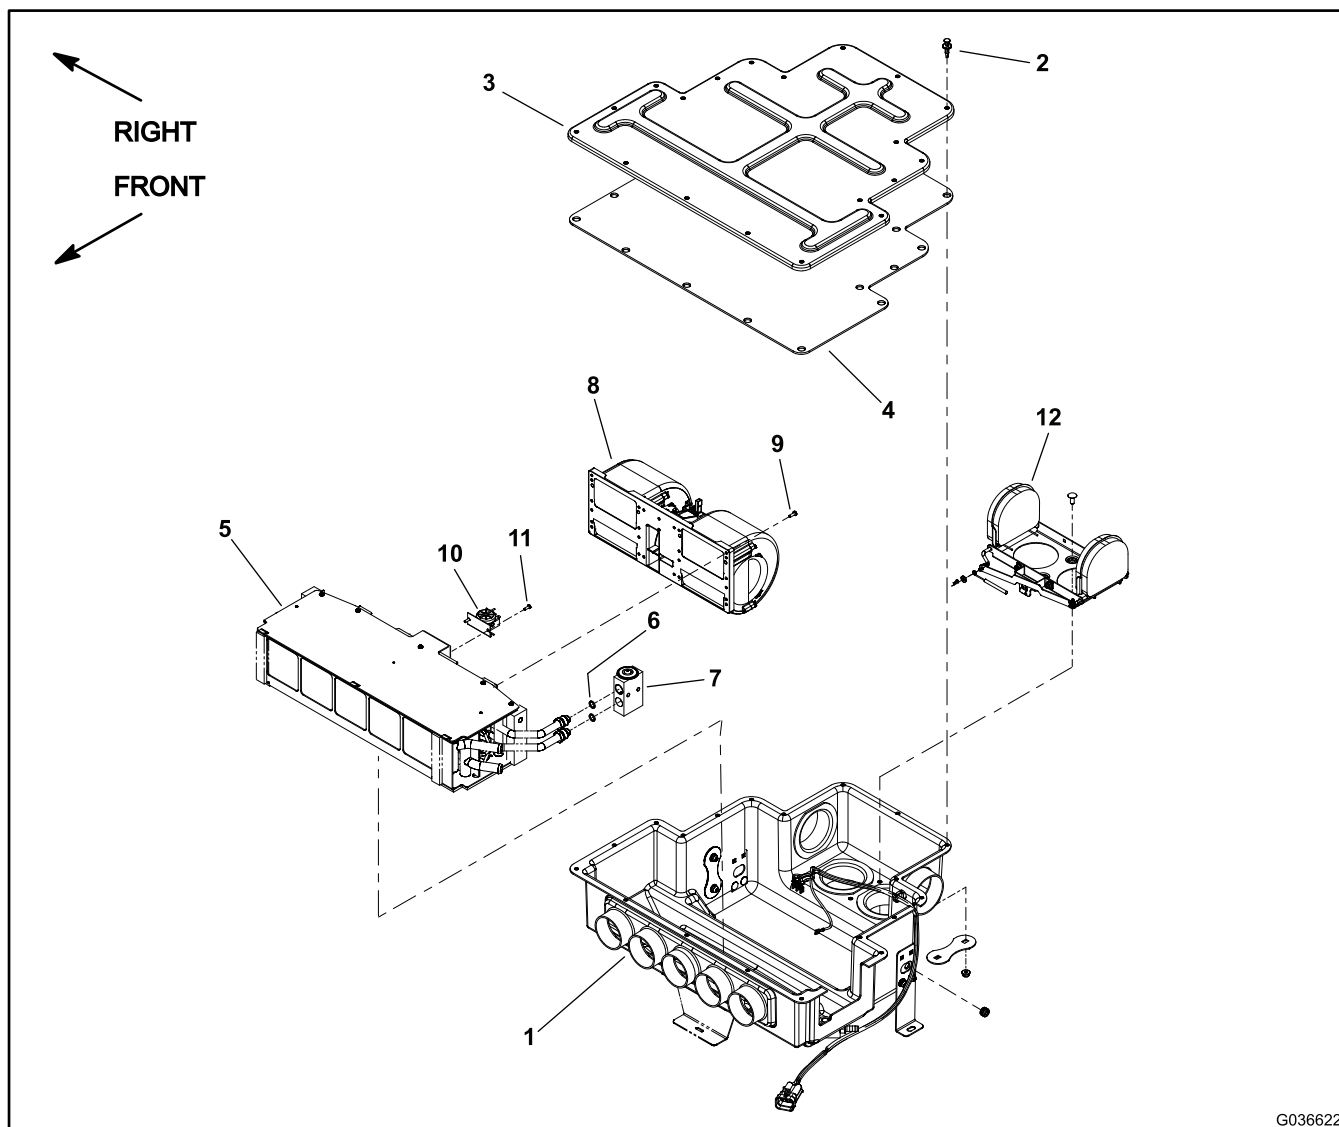

Figure 333
Note: The blower fan can be removed and installed with the mixing box (item 1 in Figure 333) attached to the cab headliner.
10. Remove the 6 screws (item 9 in Figure 333) that secure the blower fan to the heater core/air conditioning evaporator assembly, and remove the blower fan.